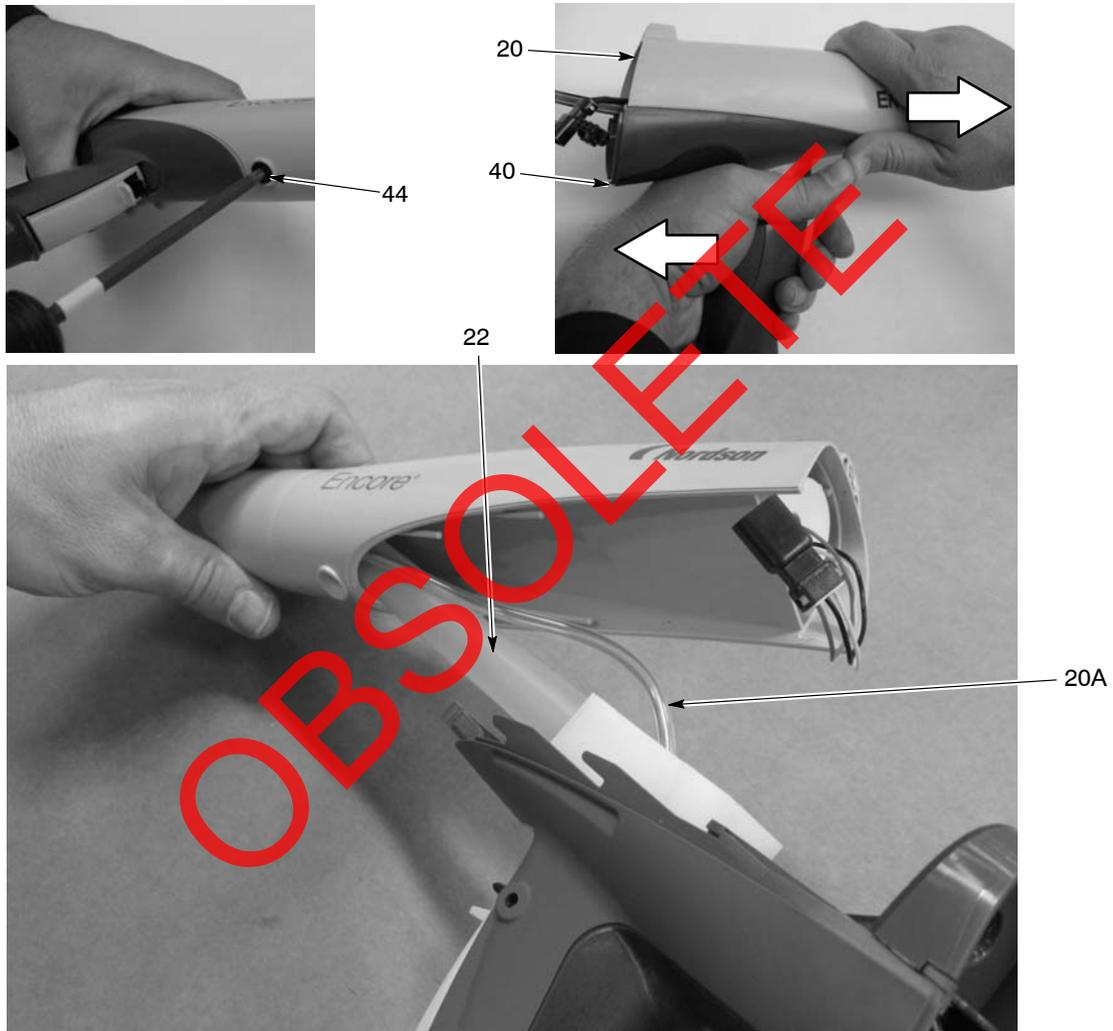

Figure 6-2 Removing the Gun Body from the Handle
4. See Figure 6-2. Remove the black nylon screw (44) from the gun body.
5. Grasp the handle (40) in one hand and the gun body (20) in the other. Press the thumbs of each hand together while pulling in opposite directions to separate the gun body from the handle.
**NOTE:** The powder outlet tube (22) is Pyrex glass. Use care while removing the gun body from the handle.